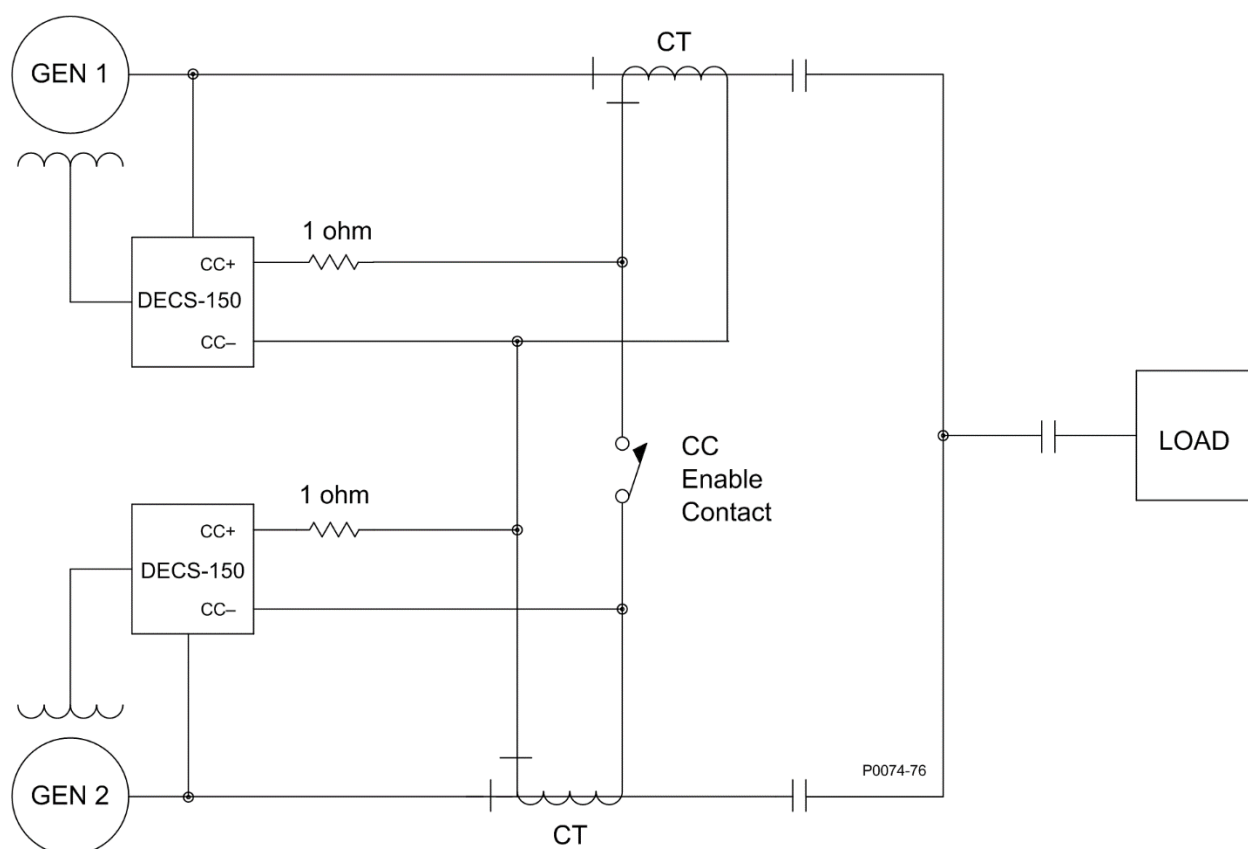

Figure 5. Connections for Cross-Current Compensation
Cross-current compensation (reactive differential) mode allows two or more paralleled generators to share a common reactive load. As shown in Figure 5, each generator is controlled by a DECS-150 using the DECS-150 cross-current compensation input (terminals CC+ and CC-) and a dedicated, external current transformer (CT) to sense generator current. The resistors shown in Figure 5 are used to set the burden and may be adjusted to suit the application. Ensure that the power rating of the resistors is adequate for the application.